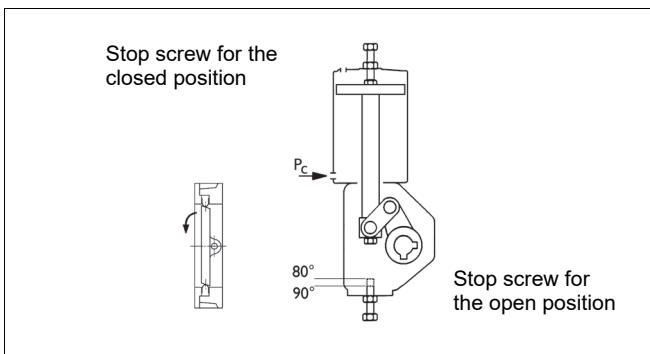

Fig. 19 Cylinder actuator, series B1C
- Place the disc horizontally on a surface so that the flat side of the disc lays against the surface. Lift the body around the disc so that the shaft bores are aligned with the bores in the disc. Protect the disc (see Fig. 19).